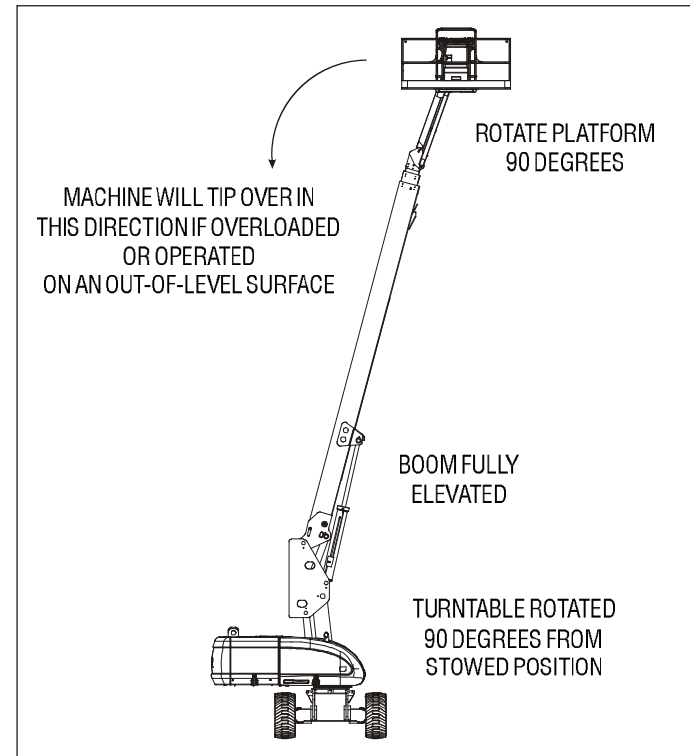
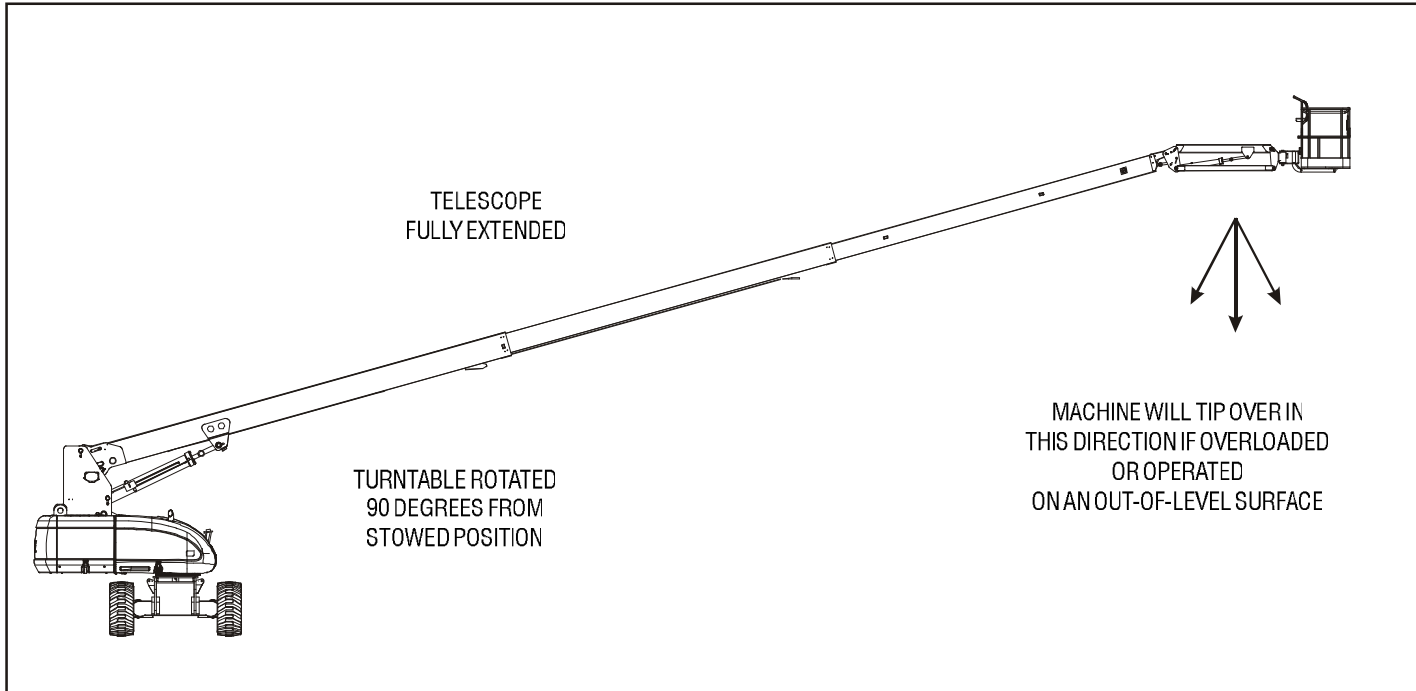

Figure 4-1. Position of Least Backward Stability
Figure 4-2. Position of Least Forward Stability
Machine stability is based on two (2) conditions which are called FORWARD and BACKWARD stability. The machine's position of least FORWARD stability is shown in (See Figure 4-2.), and its position of least BACKWARD stability is shown in (See Figure 4-1.)